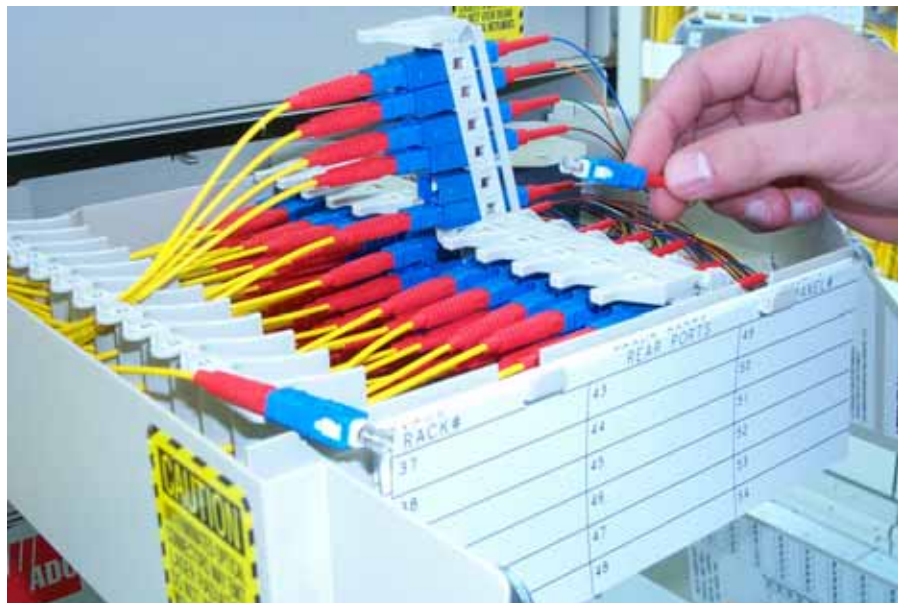

Figure 74. Removing Rear Side Connector
5. Remove the rear side connector and immediately cover it with a dust cap as shown in Figure 74. Set aside the rear side connector.